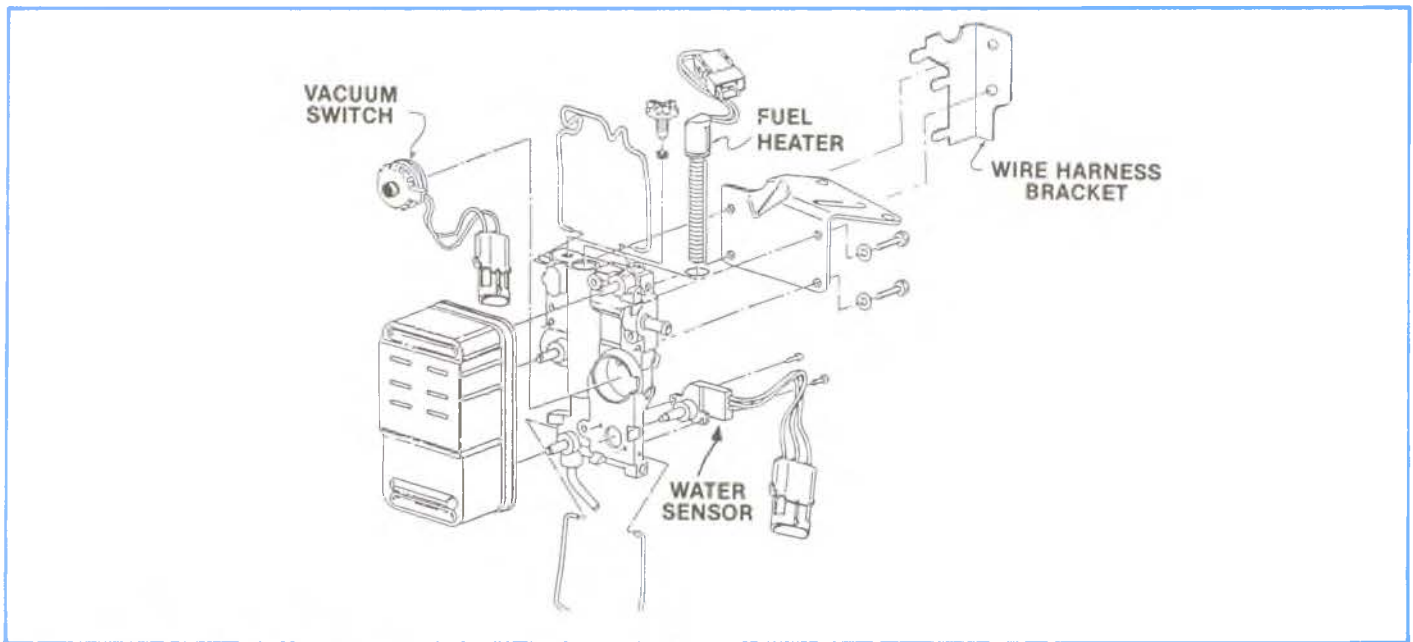

Figure 4-28, 1985 Model 80 Filter, Exploded View.
- 11) See Figure 4-28 for proper vacuum sensor installation. To prevent cutting of the "O" ring seal, insert the sensor into the bore at an angle with wire lead portion inserted first. Insert the new sensor (less the retaining clip) into the base, using finger pressure until it is seated or nearly seated at the bottom of the bore.